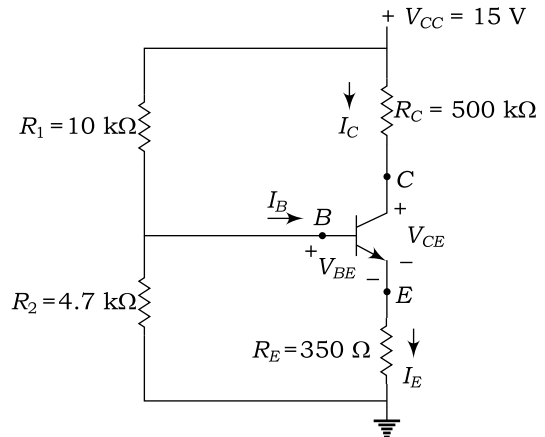

Fig. 2.120
47. Figure 2.120 shows the voltage-divider bias circuit. Determine the collector current and collector-to-emitter voltage. Assume $V_{BE} = 0.7 \text{ V}$ and $\beta = 55$.